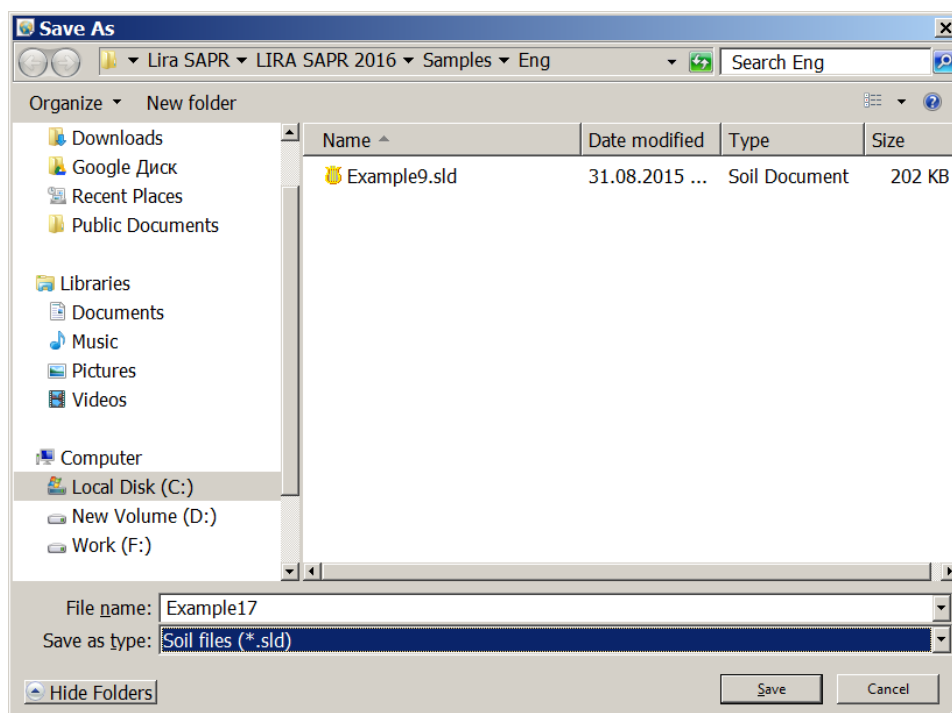

Figure 17.1. **Save as** dialog box
- ⇒ In the **Save as** dialog box (see Fig.17.1) define the following data: